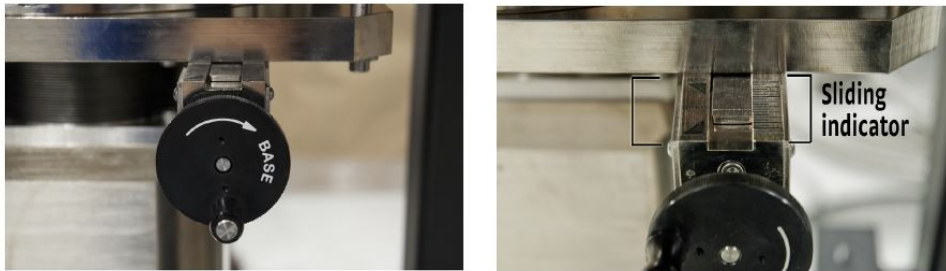

Figure 8. Heat switch control knob
- The recommended operation for the temperature measurements is to first let the entire CRX-VF station be cooled down to base temperature at 10 K, and then warm the sample stage to the set measurement temperature. To cool the sample to the base temperature, the manually operated heat switch control knob shown in **Figure 8** should be rotated all the way down in the Base direction, in the clockwise rotation until it reaches the full stop.